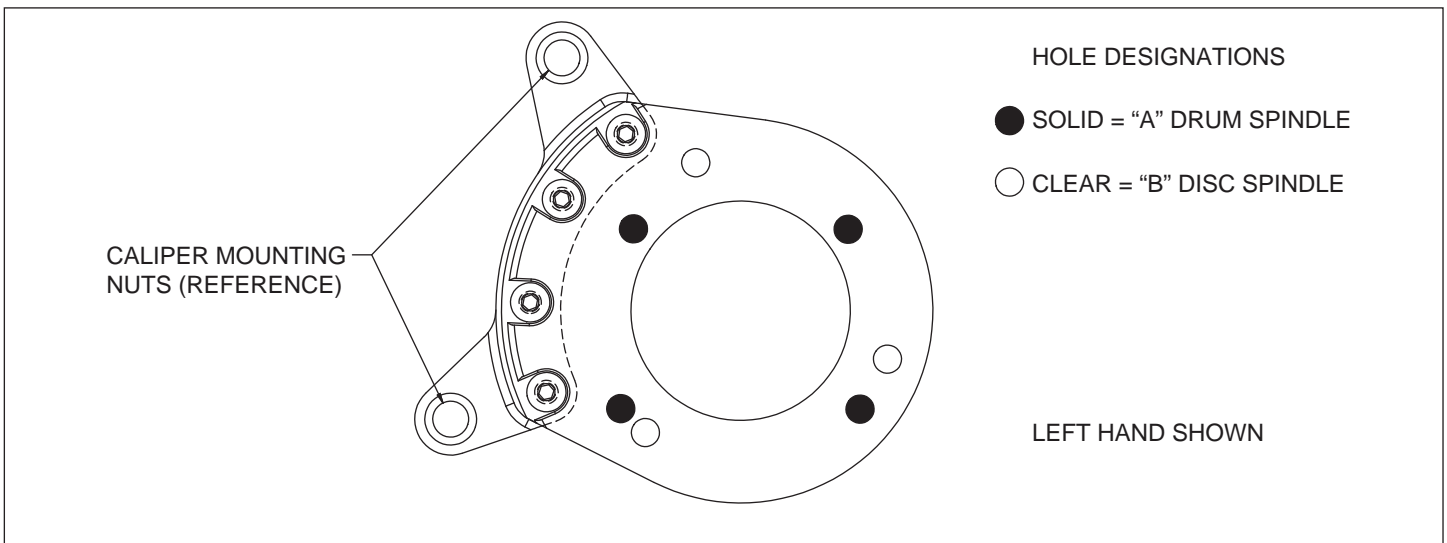
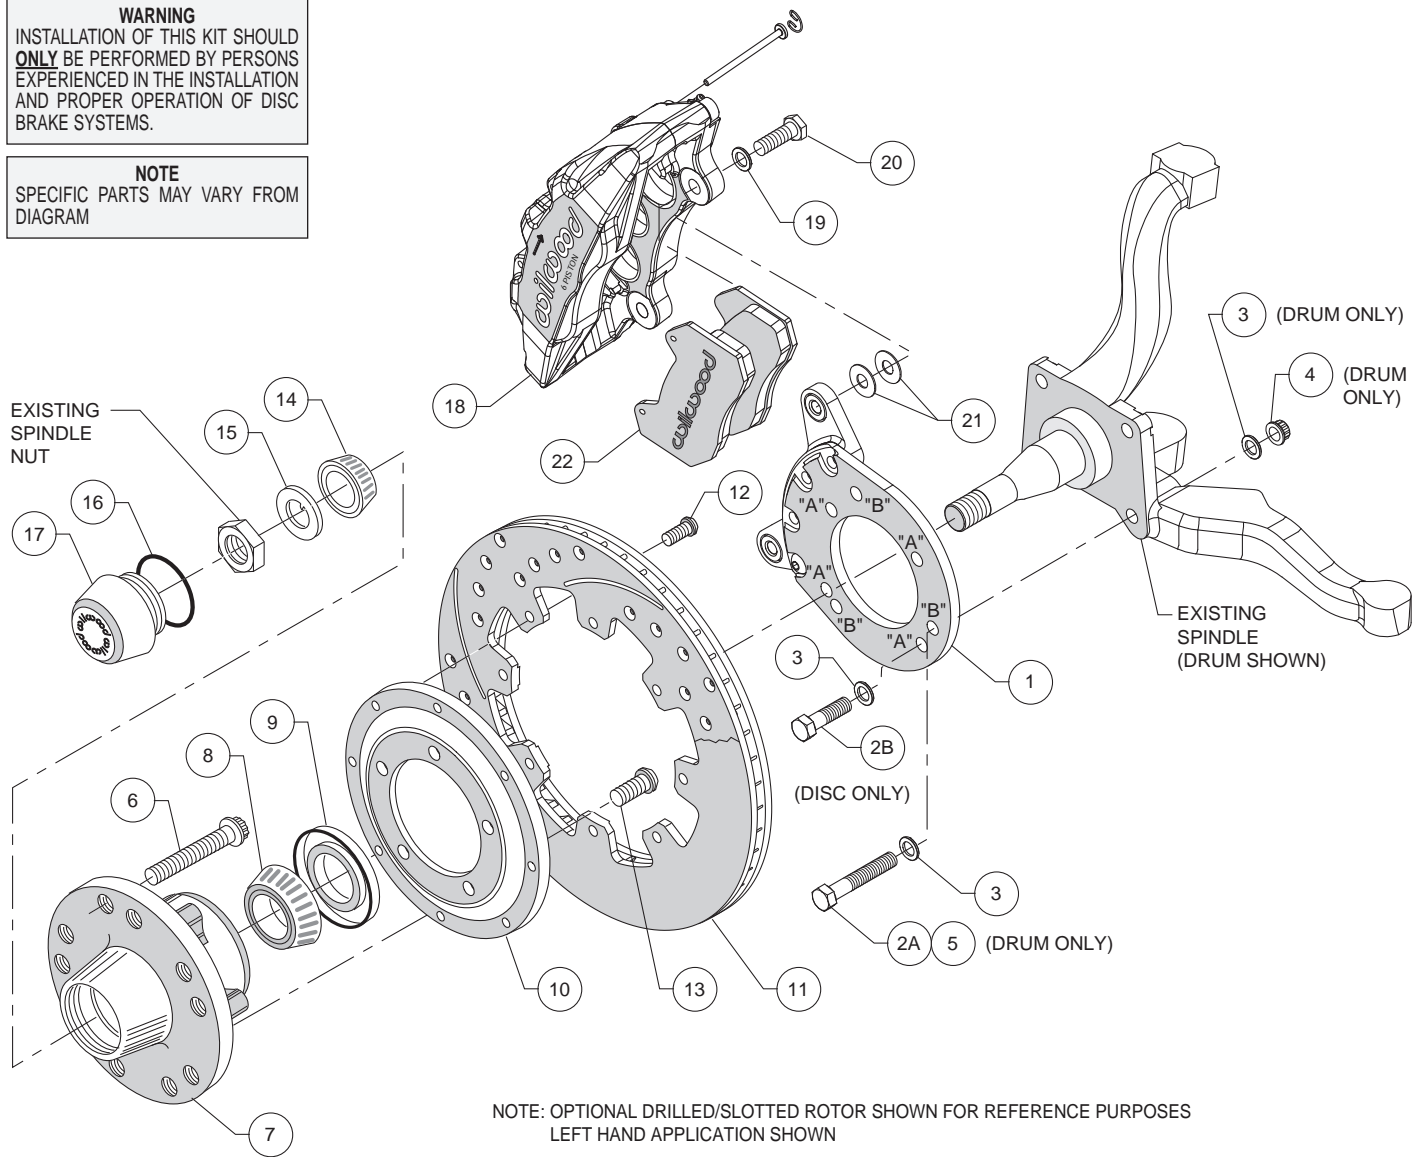
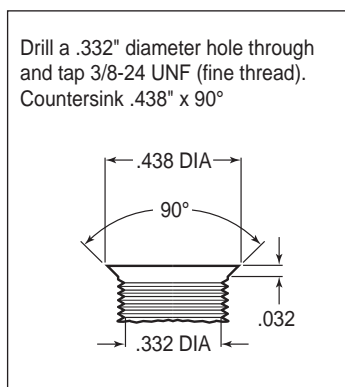
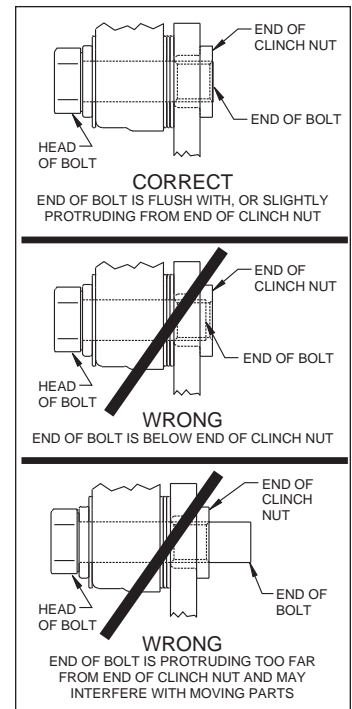

Figure 1. Wilwood Caliper Mounting Bracket
Figure 2. Typical Installation Configuration
Figure 3. Drill and Tap Detail
Figure 5. Clinch Nut Engagement Diagram
This kit has been designed for use with both the disc brake or the drum brake configuration of vehicle. The only difference is in how the Wilwood caliper mounting bracket is installed. The same bracket is used for both configurations; the disc brake version utilizes three mounting holes while the drum brake application uses four mounting holes (see Figure 1). For your convenience we have supplied bolt kits for both applications (see parts list and Figure 2 as necessary). Use the bolt kit that is applicable to your vehicle and disregard the other one.
NOTE: This modification should be performed by a qualified machinist and completed before assembly of the Wilwood disc brake kit begins. Using the caliper mounting bracket as a template (refer to Figure 1 as necessary), locate and verify the three original holes on the spindle that need to be modified. Drill a .332" diameter hole through all three holes, then tap 3/8-24 UNF (fine thread). Countersink the holes to .438" diameter x 90°, as shown in Figure 3.
Assembly Instructions (numbers in parenthesis refer to the parts list, and Figure 2 on the preceding pages): **CAUTION:** All mounting bolts must fully engage clinch nuts. Be sure to check that all bolts are either flush or protruding through flanged side of clinch nut after shimming, Figure 5.
•**NOTE:** This kit uses the same mounting bracket (1) for both the drum and disc brake spindles. The drum version, Photo 1, uses four mounting bolts (designated "A"), while the disc version, Photo 2, uses three (designated "B"). Refer to Figures 1 and 2 for the basic installation position of the bracket and the "A" and "B" reference designations (not physically marked on the brackets).
For Drum Spindle: Align bracket, using the four "A" holes, to the face of the spindle and attach using bolts (2A and 5), washers (3), and lock nuts (4), as shown in Figure 2. Ensure that the flanged heads of the clinch nuts in the bracket are facing outboard, Photo 1. Torque nuts to 30 ft-lb.
For Disc Spindle: Align bracket, using the three "B" holes, to the face of the spindle and attach using bolts (2B) and washers (3), as shown in Figure 2. Finger tighten. Ensure that the flanged heads of the clinch nuts in the bracket are facing outboard, photo 2. Remove bolts one at a time, apply red *Loctite*® 271 to threads, and torque to 40 ft-lb.
•Install wheel studs (6) into the hub (7), Photo 3. Torque to 77 ft-lb. **NOTE:** There are two five lug patterns in the hub (5 x 4.50 and 5 x 4.75). Ensure the correct hub stud pattern is being used to fit the wheel application.
•Pack the large inner bearing cone (8) with high temperature disc brake bearing grease (available from your local auto parts store) and install into the backside of the hub (7), Photo 4.
•Install the grease seal (9) by pressing into the backside of the hub (7), flush with the end of the hub, Photo 4.
•Orient the rotor (11) and the rotor adapter (10) as shown in Figure 2 and Photo 5. Attach the rotor to the adapter using bolts (12). Using an alternating sequence, apply red *Loctite*® 271 to the threads, and torque to 25 ft-lb.
•Mount the adapter/rotor assembly (10/11) to the hub (7) using bolts (13), as shown in Figure 2 and Photo 6. Using an alternating sequence, apply red *Loctite*® 271 to the threads, and torque to 55 ft-lb.
•Pack the small outer bearing cone (14) with high temperature disc brake bearing grease and install into hub (7). Slide the hub/rotor assembly onto the spindle. Secure using spindle washer (15) and OEM spindle nut, Photo 7. Adjust bearings per OEM specifications. Install saved OEM nut lock (if any) and a new cotter pin (not included).
- Screw dust cap (17) into hub (7), Photo 8. Friction created by the o-ring (16) on the dust cap keeps it from unscrewing. **NOTE:** The O.D. of the existing OEM spindle washer may be larger than the I.D. of the dust cap not allowing it to seat against the hub face. Therefore, use the spindle washer (15) supplied with the kit instead of the OEM washer.
- NOTE:** Please reference the caution statement at the beginning of the assembly instructions. This kit contains distinct right and left hand calipers that must be mounted in a specific direction, as described below. Mount the caliper (18) onto the caliper mounting bracket (1) using bolts (20) and washers (19), as shown in Figure 2. Initially place two .035" thick shims (21) on each bolt between the caliper and the bracket, Photo 9. Ensure that the caliper is mounted so the largest pistons are at the rotor exit end of the caliper, in relation to the direction of rotor rotation. Temporarily tighten the mounting bolts and view the rotor (11) through the top opening of the caliper. The rotor should be centered in the caliper, Photo 10. If not, adjust by adding or subtracting shims between the bracket and the caliper. Always use the same amount of shims on each of the two mounting bolts. **NOTE:** The end of each bolt must be flush with or slightly protruding from the head of the clinch nut, as shown in Figure 5. If necessary place spare shims between washer (19) and caliper mounting ear to achieve the proper clinch nut engagement. Once the caliper alignment and clinch nut engagement are correct, remove the caliper bolts and caliper.